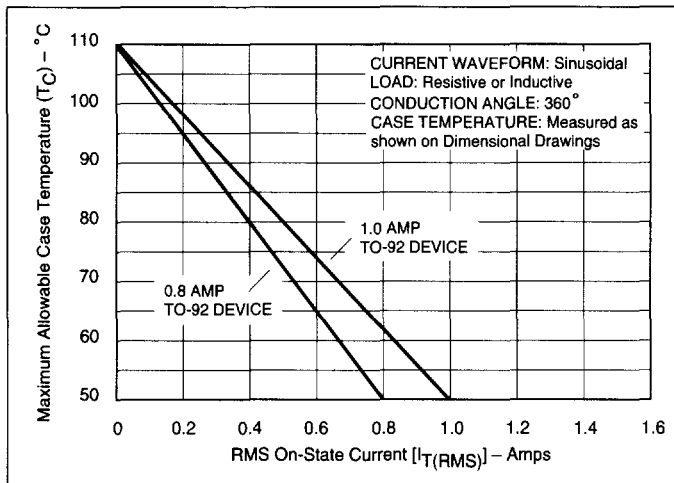

Figure 1.2 Maximum Allowable Case Temperature vs On-State Current (0.8 and 1.0 Amp)
- (10) See Figures 1.2 and 1.3 for maximum allowable case temperature at maximum rated current.